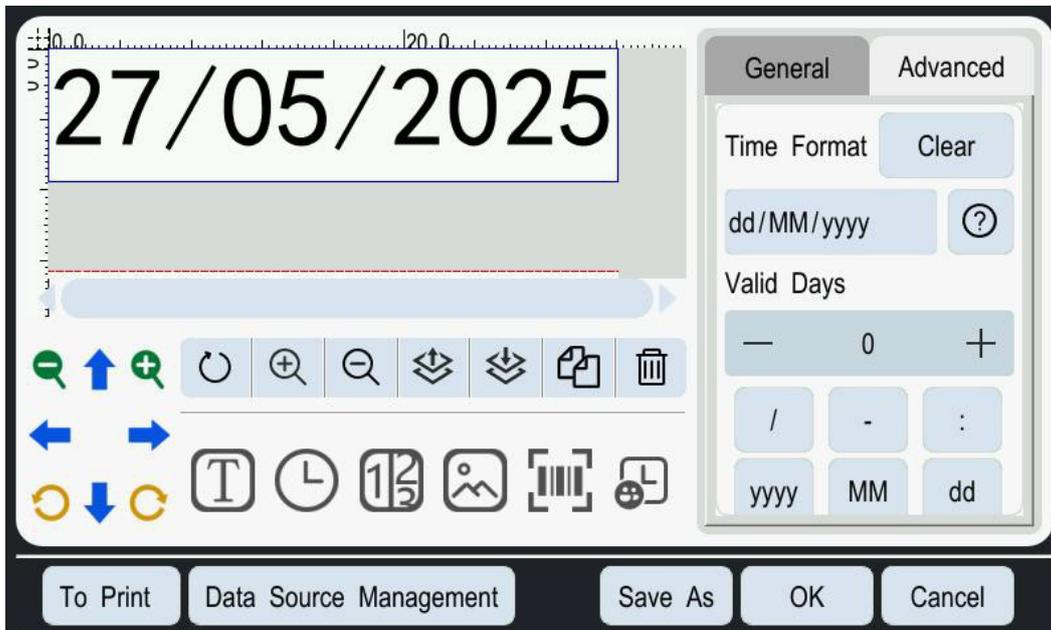

Figure 5-6: Time Editing Interface
1. To print variable time (time in the printed information that updates automatically without manual intervention), click the Time button . A default time item will appear in the preview area, as shown in Figure 5-6. **Note:** Variable time information updates in real-time during printing.